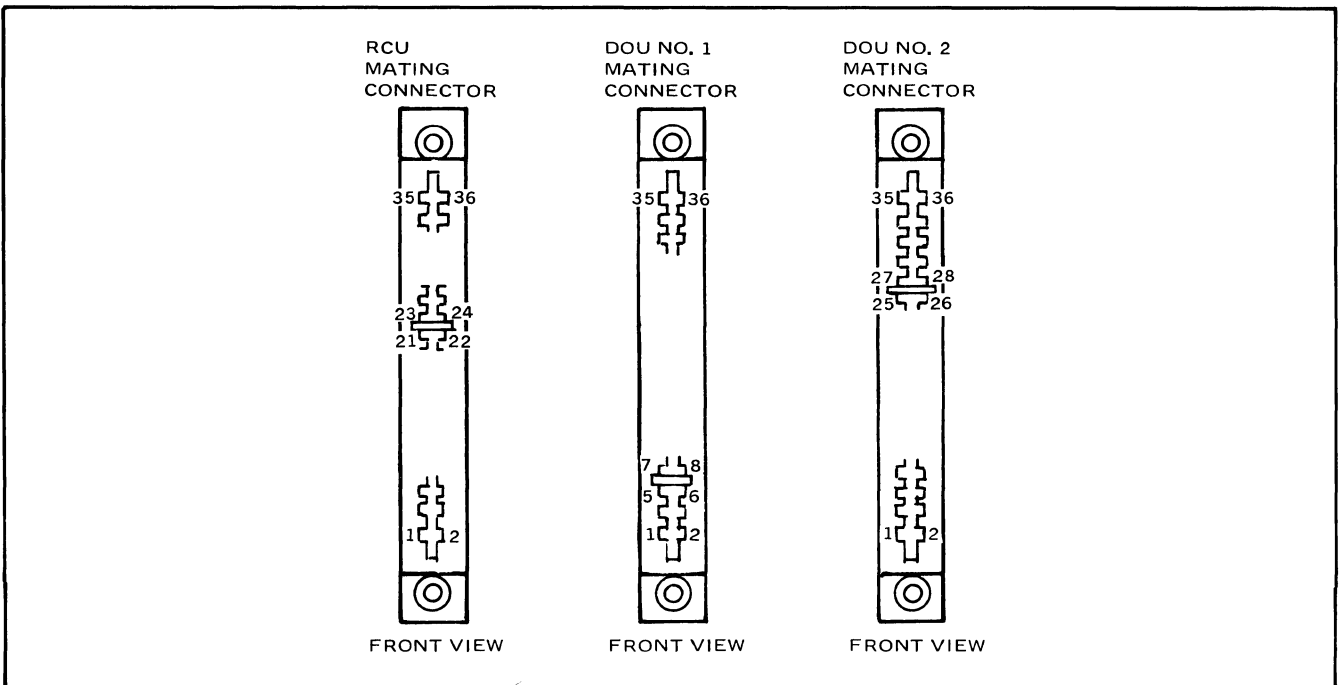

Figure 6-2. ALIGNMENT SPACER POSITIONS
- b. Mount alignment spacers (F) between proper pins on Connector (B). Spacer positions are given in Figure 6-2.